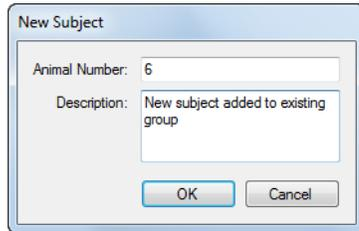

Figure 5-4. Adding a new subject to a predefined group.
3. Click the **New Subject** button on the toolbar. The New Subject window opens (see Figure 5-4) and displays the next subject number.